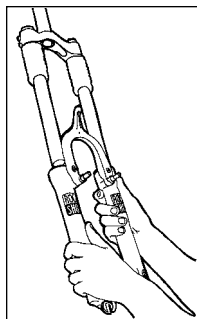

Fig. 5
6. Slide off one-piece lower tube assembly (see Fig. 5). Remove fork boots.